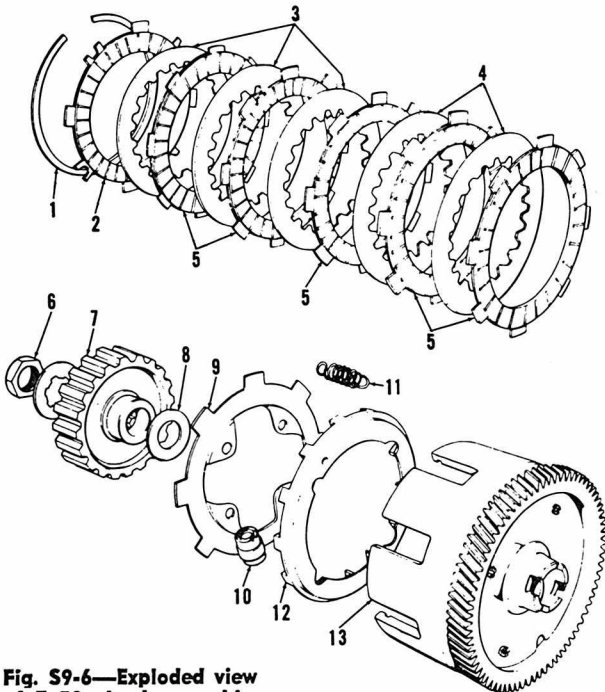

Fig. S9-6—Exploded view of F 50 clutch assembly.
Clearance between inner plate (9—Fig. S9-6) and inner cork friction disc (5). Proper clearance is 0.055-